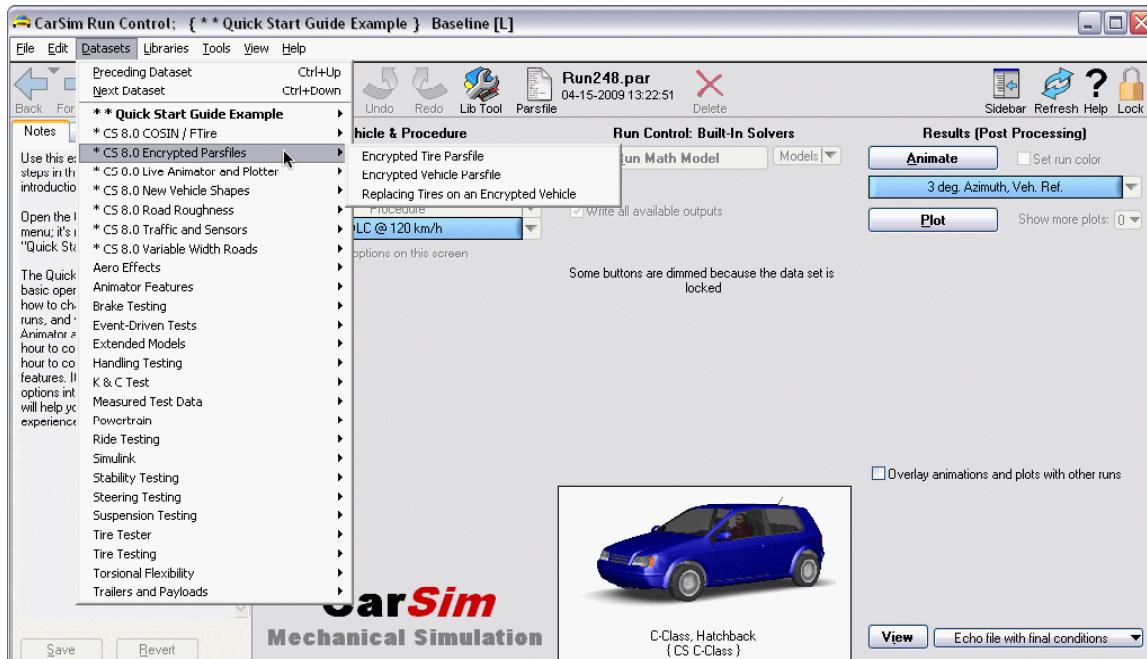

Figure 77. View all of the datasets in a library using the **Datasets** menu.
3. Select the **Datasets** menu to view the list of existing run categories (Figure 77). Those that show features added in the current release have names that begin with '*' so they appear at the top (the categories are sorted alphabetically). You can use this menu to jump to any dataset in the library.